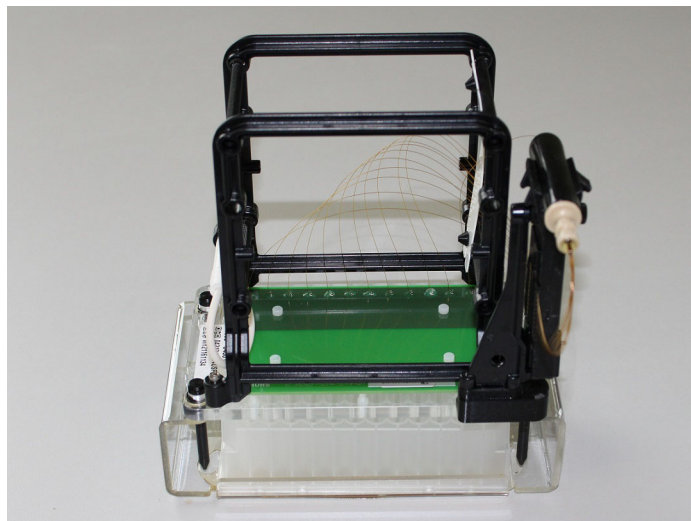

Figure 109 Array docking station with capillary array installed
- 5 Insert the two white screws as shown in **Figure 109** to tighten the capillary array into place.